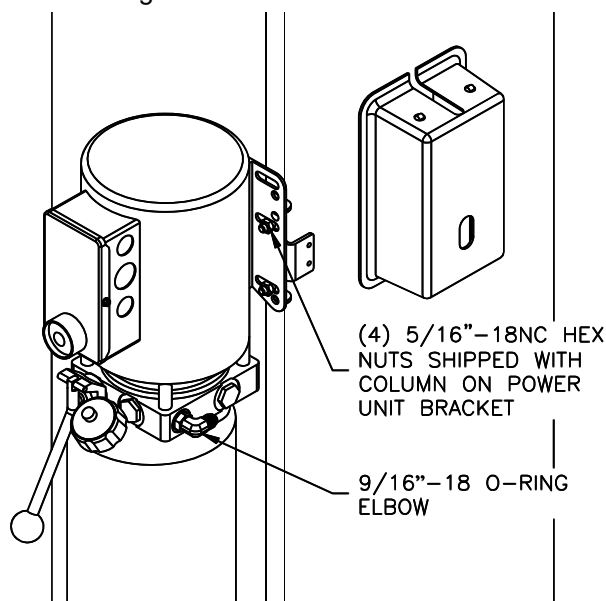

Fig. 11 – Power Unit Mounting
- 31) Mount Power Unit to power column as shown in **Fig 11**. The mounting hardware, (4) 5/16" -18NC hex nuts, are pre-installed on power unit mounting bracket.
- 32) Install 9/16"-18 O-ring elbow (*in hardware box*) into power unit, **Fig. 11**. **CAUTION** do not damage rubber O-ring.